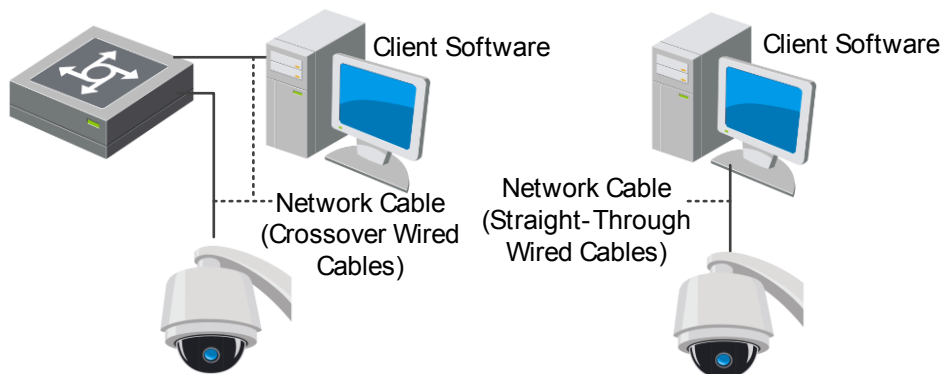

Figure 4-1 Connecting Directly
- After completing the installation of Smart Linkage tracking system, you need to set the function configurations and related parameters. Make sure that the system is properly connected with your PC. Two methods are available for the system connection, as shown in Figure 4-1.